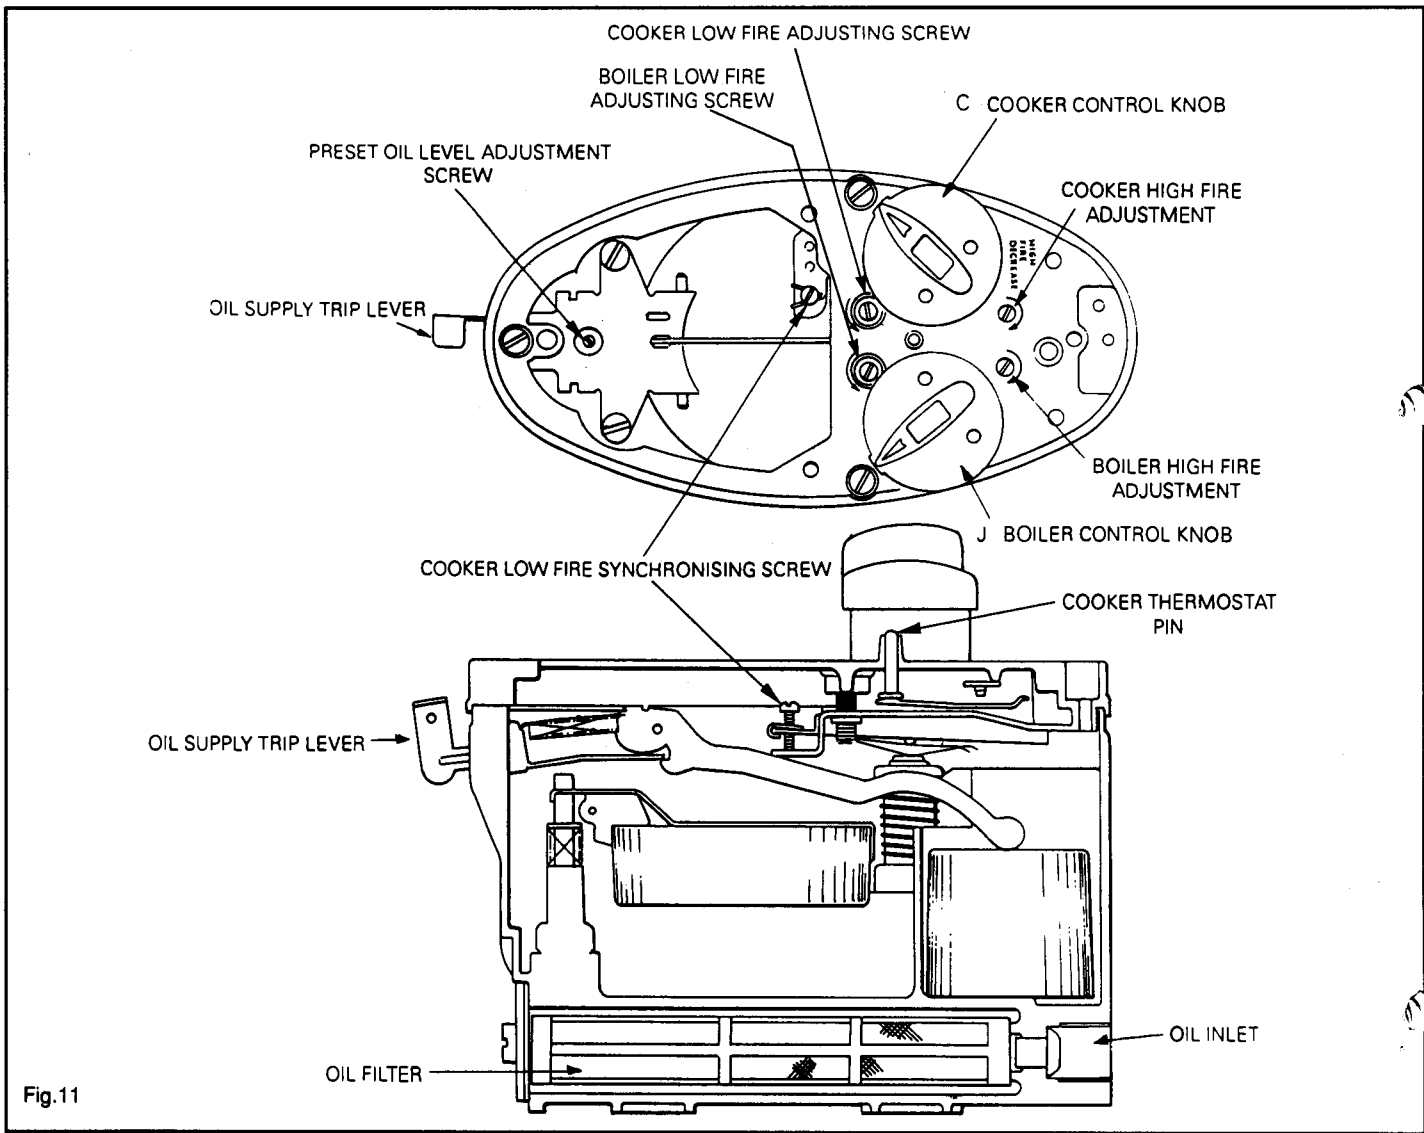

Fig.11
- g. Take oil rate this should be 38-40cc min. If the setting is wrong then adjust it accordingly by turning the high fire setting screw as shown in Fig.11.
- b. Remove Aluminium Cover Plate to valve, and screw the synchronising screw just clear of plate. See Fig.11.
- e. If the rate is incorrect then turn the low fire setting screw as shown on the cover plate to increase or decrease the flow. See Fig.11.
- f. NOW ADJUST THE LOW FIRE SYNCHRONISING SCREW SUCH THAT IT JUST TOUCHES THE STOP PLATE - THERE SHOULD NOT BE ANY MOVEMENT OF THE SCREW WHEN PRESSED LIGHTLY. See Fig.11.